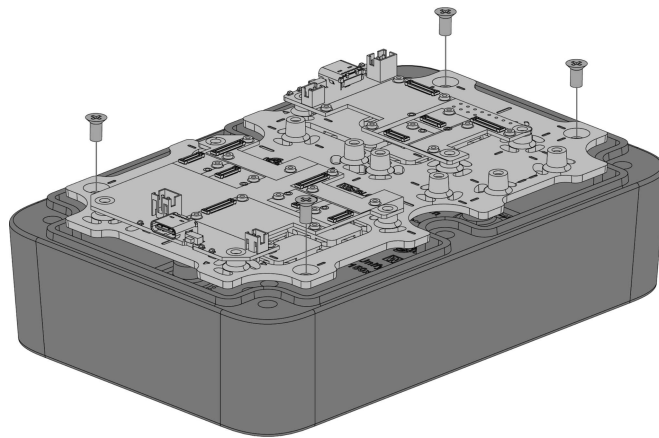

Figure 10: Installing Internal Mount Plate to the enclosure
Then, install the WisBlock Internal Mount Plate to the base of the enclosure using four (4) pieces of M3*4 mm Countersunk head screws, as shown in **Figure 10**.